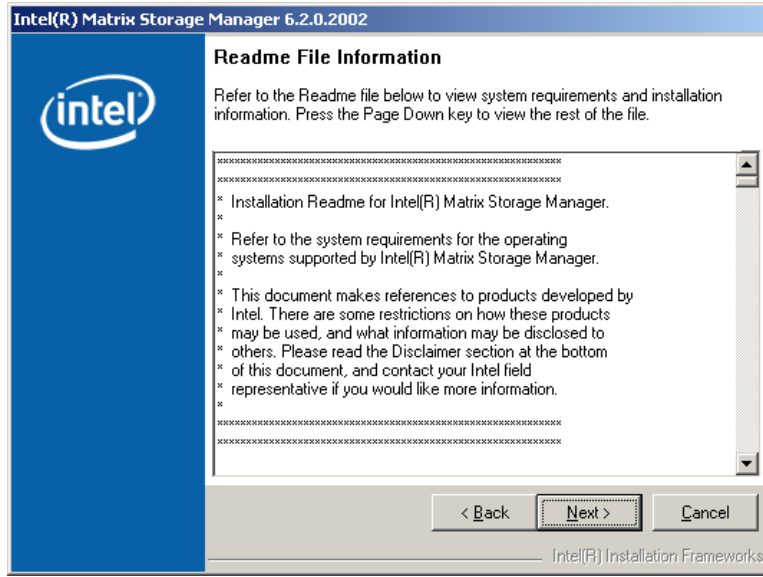

Figure 7-59: Matrix Storage Manager Readme File
Step 10: Read the license agreement. To accept the terms and conditions stipulated in the license agreement shown, click **YES** and the Readme information file shown in Figure 7-59 appears.